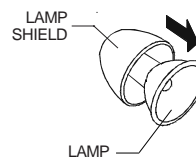

FIG.8
*Note: For the 50W (12V) IC frame-in kit Put down the lamp shield (included with the IC frame-in kit) onto the lamp. (Fig.8)*